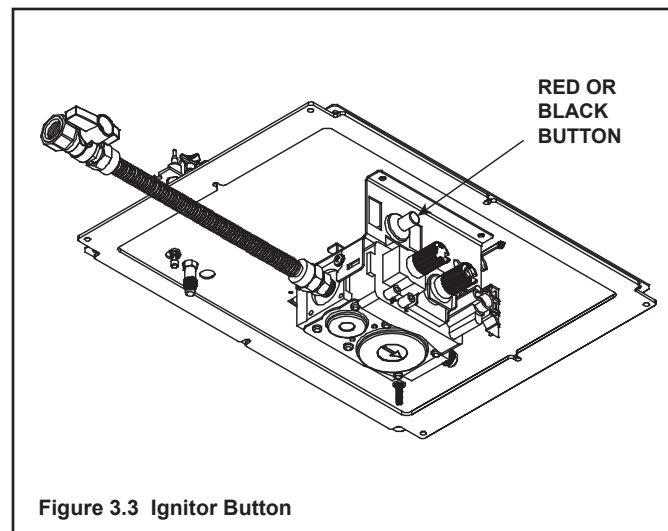

Figure 3.3 Ignitor Button
- A standing pilot ignition will have a red or black ignitor button. See Figure 3.3.